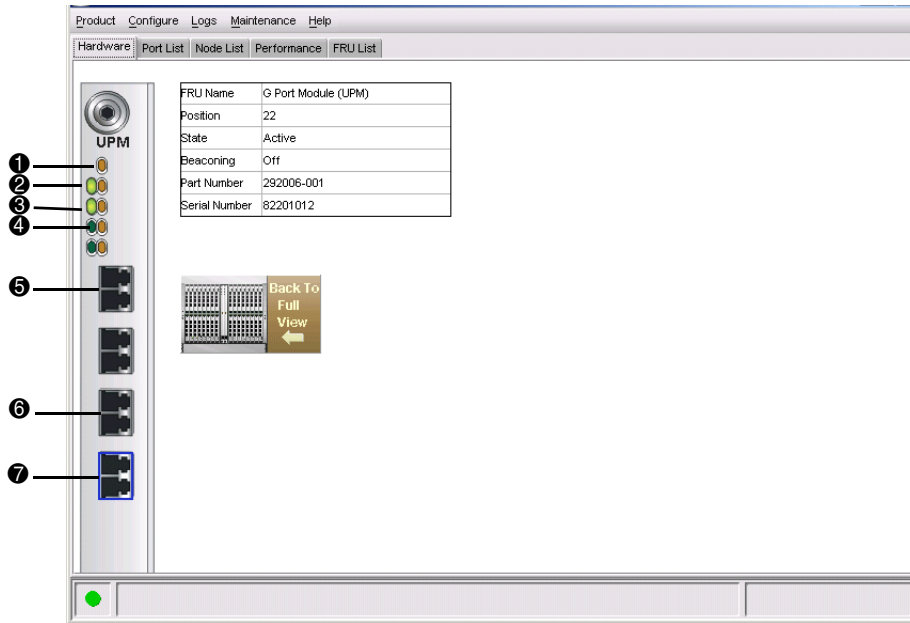

Figure 22 Port Card view
In the Hardware view, double-click a port card or right-click a port card and select **Open Port Card View** for a detailed view of the port card, as shown in Figure 22 on page 63. In this view, colored indicators reflect functions of the actual LEDs on the card. The table in the Port Card view displays the port operating state and vital product information.
The numbered paragraphs that follow describe the numbered status symbols and LED indicators shown on the Port Card view in Figure 22. Port states are described in detail under “Port operational states” on page 86.
2. In Figure 22, the amber LED is blinking (while the green LED is on) for the first port on the card, and a yellow triangle displays by the port's connector. This indicates that beaconing is enabled for the port and the port is in an online state. Note that if the amber port indicator flashes and the green indicator is off, the port is running diagnostics.
- Beacons for the port was enabled through the **Enable Beacons** option. Note that this is the case in the illustration on Figure 22 on page 63 (see number 1 in the illustration).
6. The Port Card view indicates a failed port by a blinking red and yellow diamond status symbol by the port's connector. The amber LED for the port will also be illuminated (see number 4 in Figure 22 on page 63).